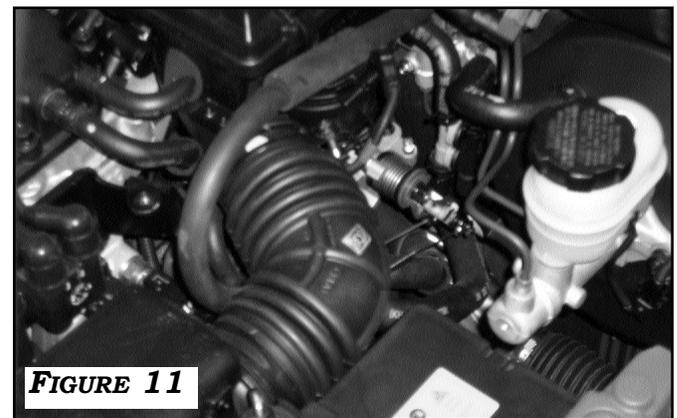

FIGURE 11
3. SECURE CRUISE CABLE TO VEHICLE CABLE WITH TIE STRAPS PROVIDED AND REINSTALL BREATHER DUCTWORK. **FIGURE 11**